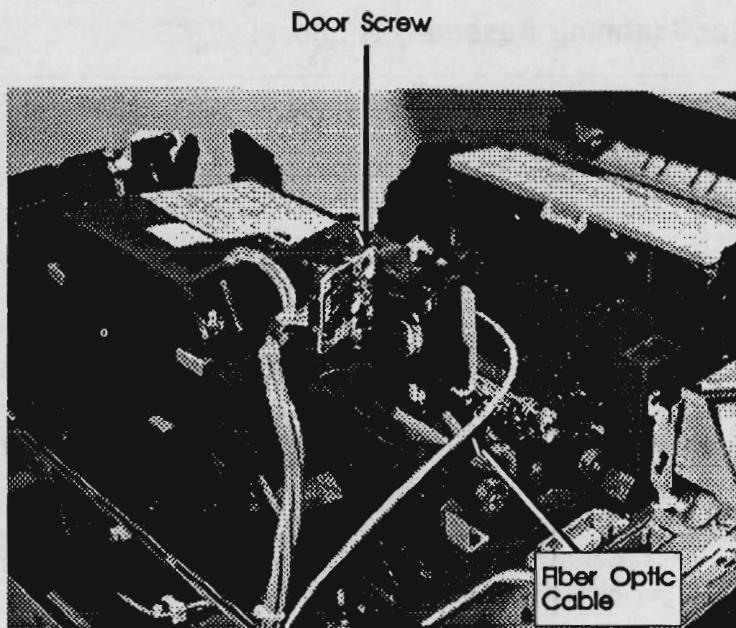

Figure 6-27. Laser/Scanning Assembly
The Laser/Scanning Assembly (Figure 6-27) is extremely fragile and should be handled carefully. Be particularly careful when handling the fiber-optic cable.
2. *Disconnect* the Fiber-optic Cable from the Laser/Scanning Assembly, by removing (1) screw securing the small door (see Figure 6-27), open the door, and slip the cable out of the retainer.
To prevent damage when reinstalling the cable, be sure it is routed properly with no sharp bends. See Figure 6-27.